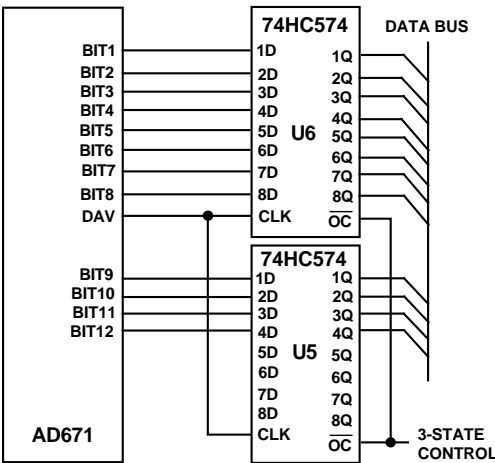
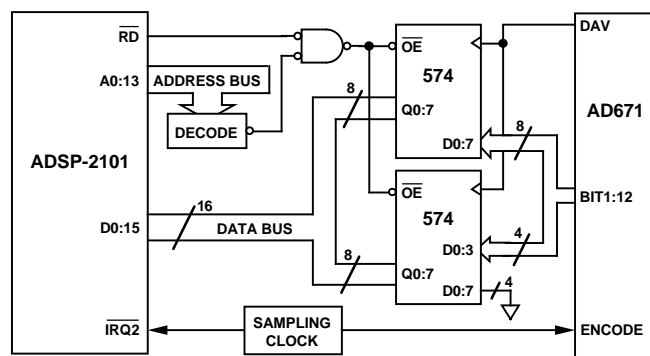

Figure 10. AD671 to Output Latches
Figure 20. AD671 to ADSP-2101/ADSP-2102 Interface
Figure 10 shows the AD671 connected to the 74HC574 Octal D-type edge triggered latches with 3-state outputs. The latch can drive highly capacitive loads (i.e., bus lines, I/O ports) while maintaining the data signal integrity. The maximum set-up and hold times of the 574 type latch must be less than 20 ns (tDD and tSS minimum). To satisfy the requirements of the 574 type latch the recommended logic families are HC, S, AS, ALS, F or BCT. New data from the AD671 is latched on the rising edge of the DAV (Pin 24) output pulse. Previous data can be latched by inverting the DAV output with a 7404 type inverter. See Figures 20, 21 and 22 for PCB layout recommendations.
Figure 20 is identical to the 2100A interface except the sampling clock is used to generate an interrupt (IRQ2) for the processor. Upon interrupt the ADSP-2101A starts a data memory read by providing an address on the Address (A) bus. The decode address generates OE for the D-latches and the processor reads their output over the Data (D) bus. Reading the conversion result is thus completed within a single processor cycle.